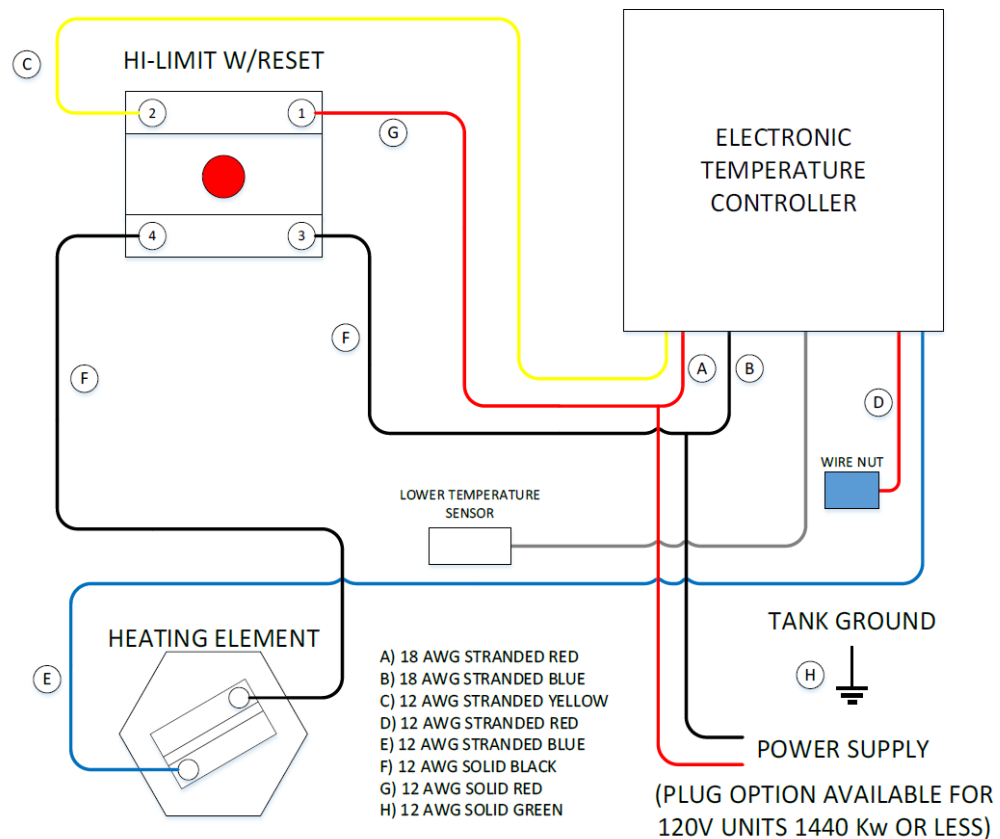

Figure 7 - Wiring Diagram
2. Connect these power leads to wires enclosed in junction box with wire nuts. Refer to Figure 7 before wiring.